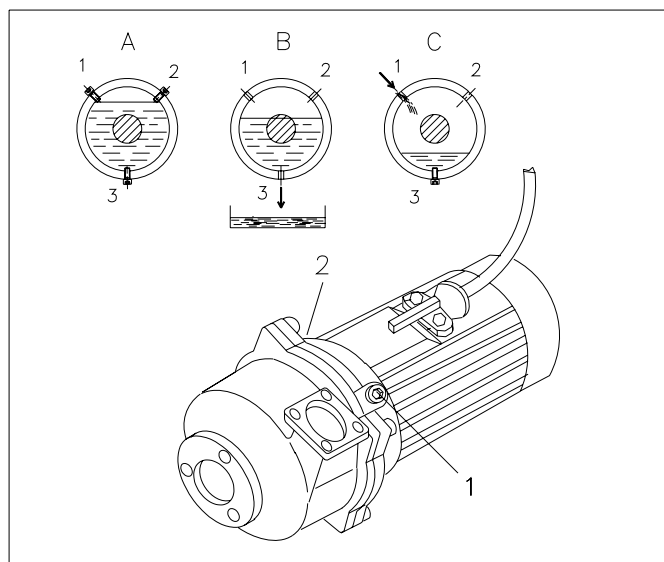

Fig. 7.8
Put the pump in a horizontal position so that the drain plug (3) is at the bottom (Fig.7.8 position A).
(Fig.7.8 position A).